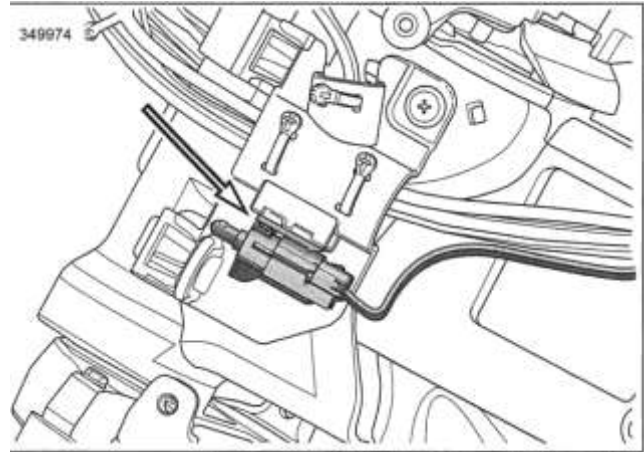

Figure 8-100. Ambient Air Temperature Sensor (FLHTK shown)
See Figure 8-100. The sensor is located at the left steering head caddy on all radio-equipped models.
1. See Figure 8-100. Install **new** sensor.